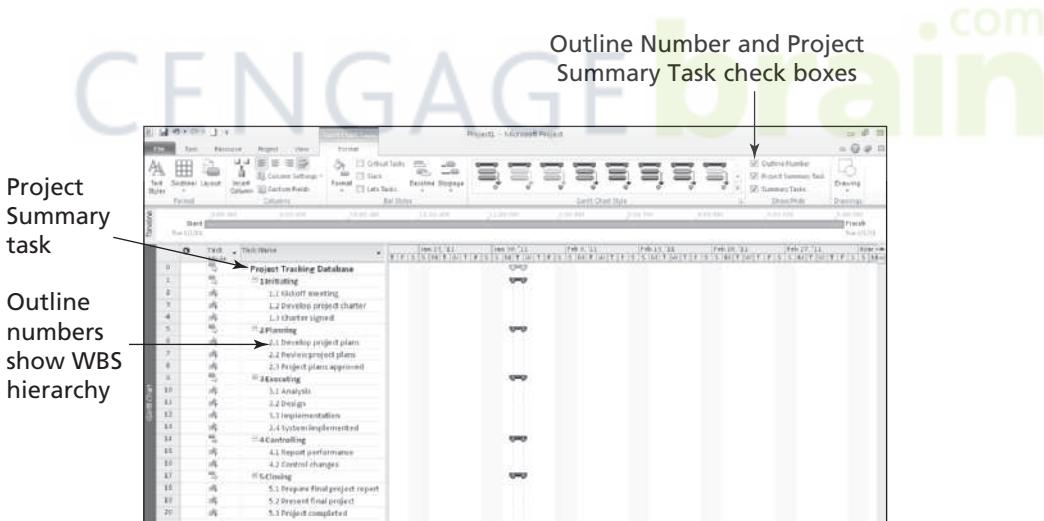

FIGURE A-20 Adding Outline Numbers and Project Summary Task
- Adjust the file.* Widen the Task Name column and move the split bar so only that column displays. Your file should resemble Figure A-20.
2. *Enter a filename.* In the Save As dialog box, type **scope** in the File name text box. Browse to the location in which you want to save the file, and then click **Save**. Your Project 2010 file should look like Figure A-20, but with the file name showing as scope instead of Project1.